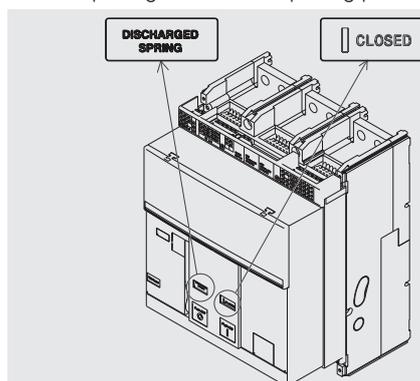

Figure 42
5. Check that the circuit-breaker is closed (open/closed indicator "I - CLOSED"), and check that the springs are discharged (spring signalling device "white - DISCHARGED SPRING") as indicated in Figure 42.